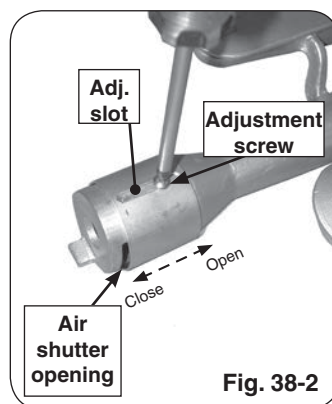

Fig. 38-2
3. Adjust the air shutter opening by loosening the adjustment screw with a screwdriver, then sliding the air shutter backward or forward to open or close the air shutter opening (see Fig. 38-2).